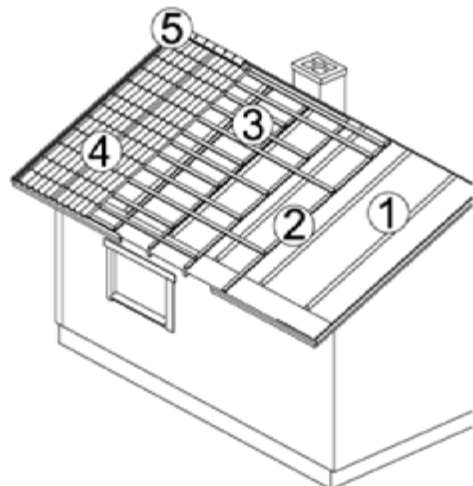

Figure 42. Renovation of an old angle fillet roof
Attach the snow breaker's brackets (4) to every other sheet seam with bolts (Figure 42). Push the oval tubes (2) in place and insert 8 x 35 mm bolts through the holes at their ends to prevent the tubes from sliding out sideways.